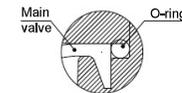

Figure 20. O-ring position
- After installation, make sure that the O-ring is fully seated in the groove (see Figure 20). If the O-ring has fallen out of the groove, it may cause external leakage or malfunction.